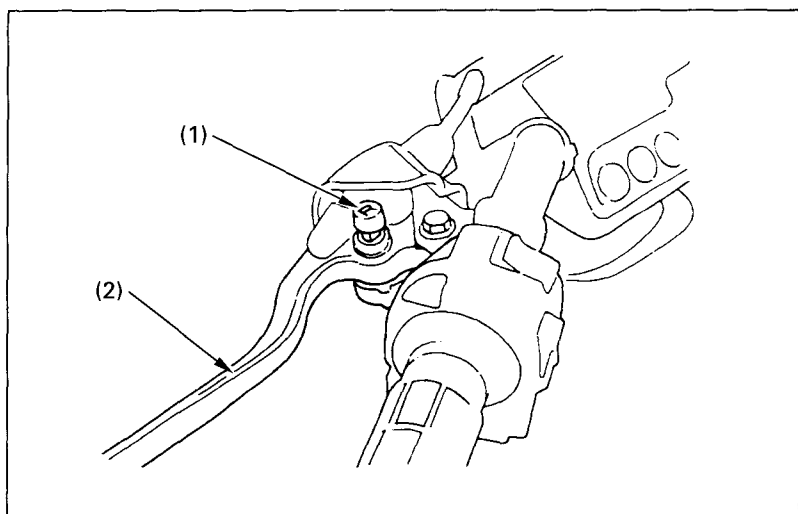

Fig. 2-15      (1) Reverse selector knob      (2) Rear brake lever
The reverse selector knob (Fig. 2-15) (1) is on the rear brake lever.